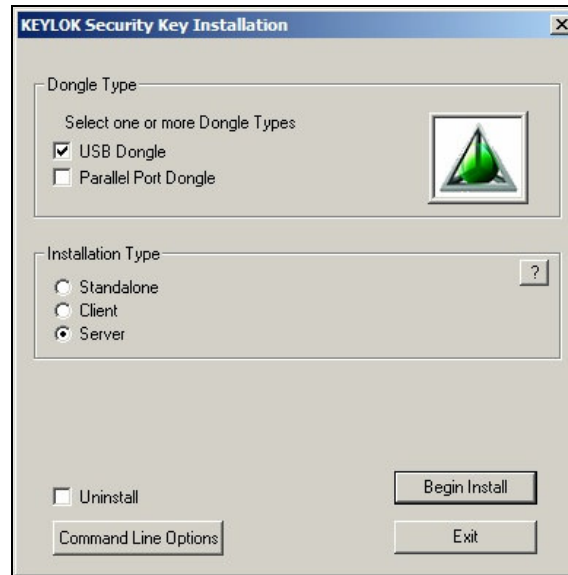

Figure C.8
- b) Select 'USB' Dongle and the 'Server' radio button. Click 'Begin Install'. (see figure C.8)